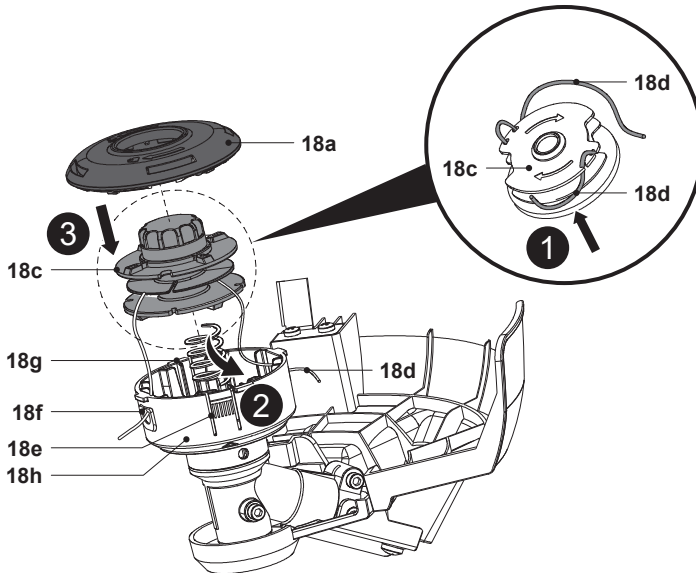

Fig. 27
9. Release the trimming line (18d) from the notches and hold it in position. Avoid the trimmer line (18d) scatted from the trimming spool (18c) (Fig. 27, Step 1).
10. Lead the trimming line ending through the eyelet (18f) on the housing (18h) (Fig. 27, Step 2).
12. Insert the trimming spool (18c) into the housing (18h) (Fig. 27, Step 3).